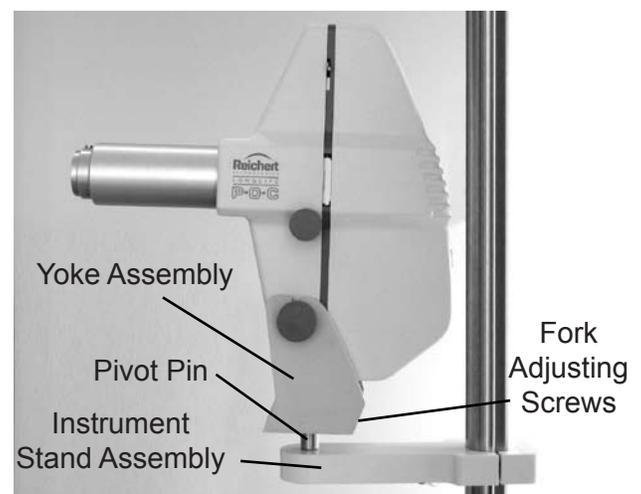

Figure IS-13 Mount Projector
4. Install the Yoke Assembly to the Pivot Post on the Instrument Stand Assembly. Refer to Figure IS-13.
5. Once the Yoke Assembly is in the desired position, tighten the Fork Adjusting Screws so that the Yoke Assembly does not move. Refer to Figure IS-13.